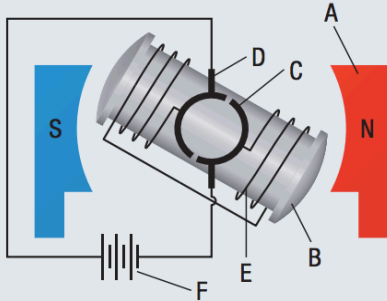

Figure 12
- Identify the parts labelled A, B, C, D, E, and F for the motor shown in **Figure 12**.